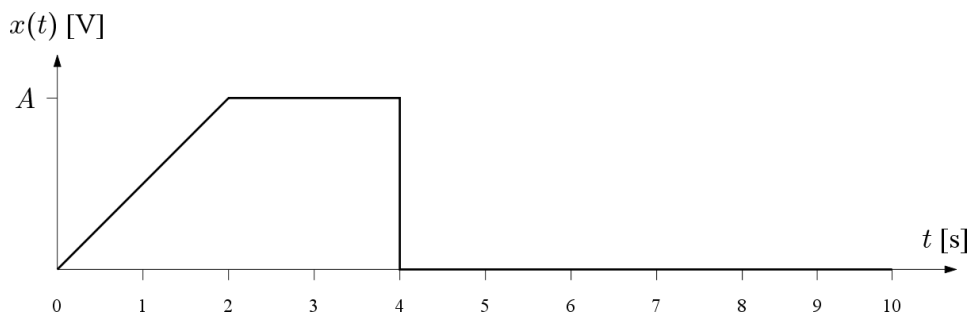

Figure 1.2: Input signal $x(t)$ with amplitude A .
- ₃ Apply graphical convolution to determine the output $y_A(t)$ of System A caused by the system input signal $x(t)$ plotted in Figure 1.2; set the amplitude A to 5 volts.
For this and the subsequent hardware measurements, set $R = 10 \text{ k}\Omega$ and $C = 0.1 \text{ }\mu\text{F}$, and change the time scale unit of the plot in Figure 1.2 on the facing page to milliseconds, i.e., the time span of the signal is 10 ms. These values permit direct comparison to your analytical results provided that you interpret your earlier plots as functions of time in milliseconds.